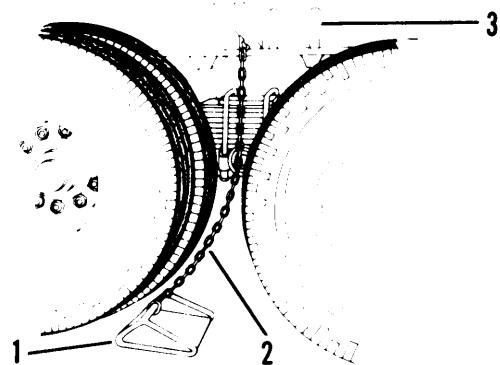

Figure 2-3. Chock Block
a. One chock block (1, fig. 2-3) located on each side of semitrailer.
b. Depending upon the terrain, place chock blocks (1) firmly behind or forward of wheels on each side of the semitrailer.
d. Chain (2) holds chock block (1) to semitrailer to keep it from being lost.
e. Stowage bracket (3) stows chock block (1) when not in use.